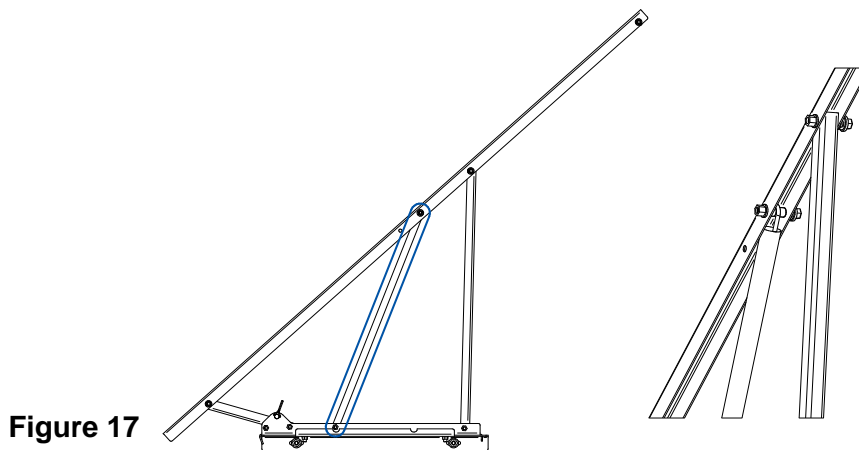

Figure 17
16.2. On 327 and 350 series trailers, install 5x25x570mm springs like shown on figure 17.